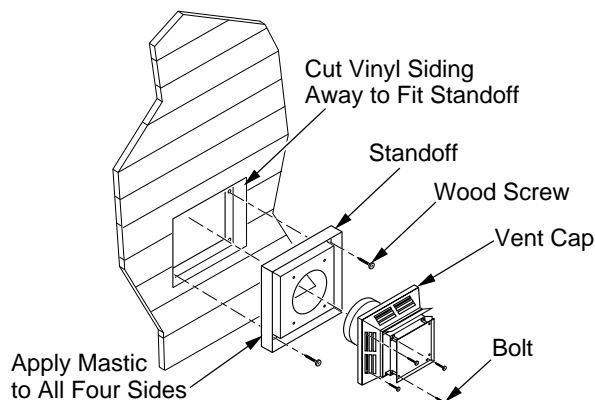

Figure 27 - Installing Vinyl Siding Standoff (Combustible Exterior Wall)
- If installing horizontal vent termination cap on an exterior wall with siding, you must use a vinyl siding standoff (see Figure 27, page 14).
Combustible Exterior Wall: For vinyl siding, stucco, or wood exteriors, a siding standoff must be installed between the vent cap and exterior wall. The siding standoff prevents excessive heat from damaging siding materials. Siding materials must be cut to accommodate standoff. Bolt the vent cap to the standoff. Apply non-hardening mastic around outside edge of the standoff. Position the standoff/cap assembly in the center of the 10" (25.4cm) square hole and attach to exterior wall with wood screws provided (see Figure 27). The siding standoff must sit flush against the exterior fascia material.